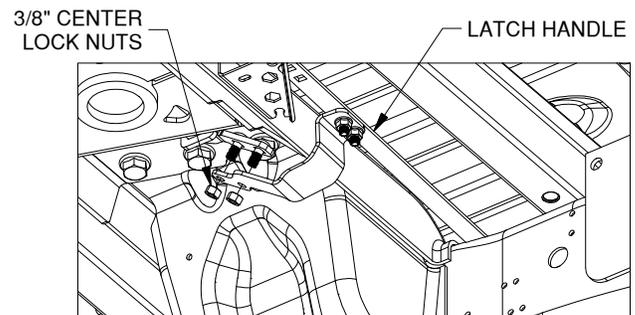

Figure D3: Looking back at driver side of center section.
- 3. Install the latch pin handle.** Beginning under the vehicle, "thread" the end of the handle in front of the brake lines and over the frame on the driver side. Attach the handle to the latching mechanism over the 3/8" carriage bolts with two 3/8" locking flange nuts, see Figure D3. Be sure that the handle is in the proper position and that it does not interfere with any other components of the vehicle. Torque the nuts to 30 ft. lbs. to secure the handle.